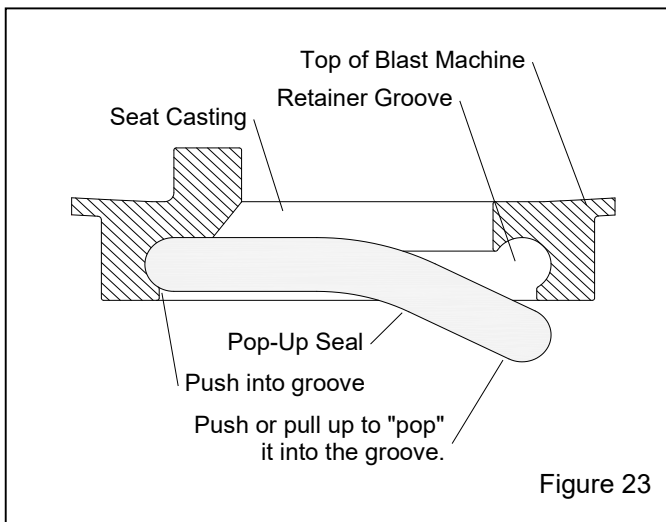

Figure 23
6.8 Replacing the Pop-Up Seal - Figure 23